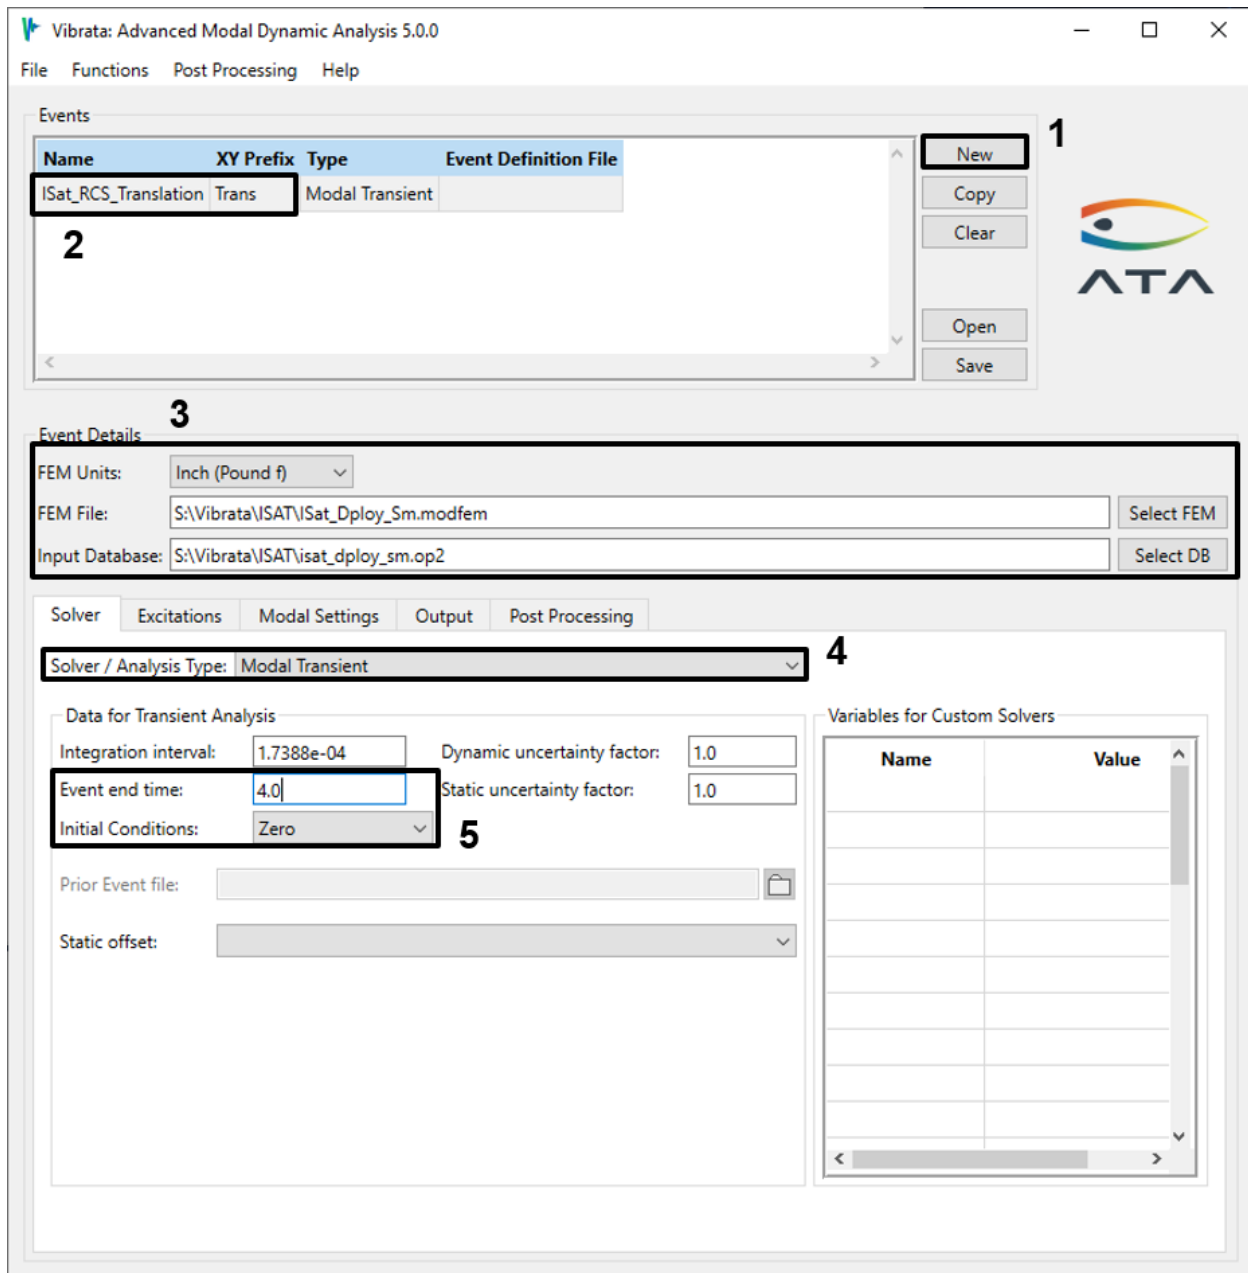

Figure 4-92. Transient event setup for deployed Isat model.
2. In the Event Manager, set up a new transient event and select the Femap file you just created and the OP2 “isat_deploy_sm.op2”. Set the event end time to 4.0 seconds and its initial conditions to Zero. Assign it an informative name. See Figure 4-92.